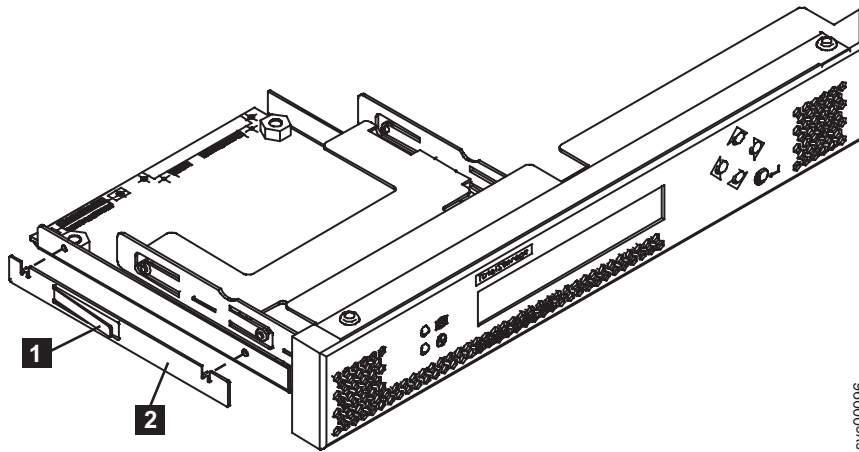

Figure 83. SAN Volume Controller 2145-8F2 or SAN Volume Controller 2145-8F4 service controller
5. Lift the cage assembly until the blue release latch (**1** in Figure 83 on page 95) on the left side of the service controller assembly is accessible.